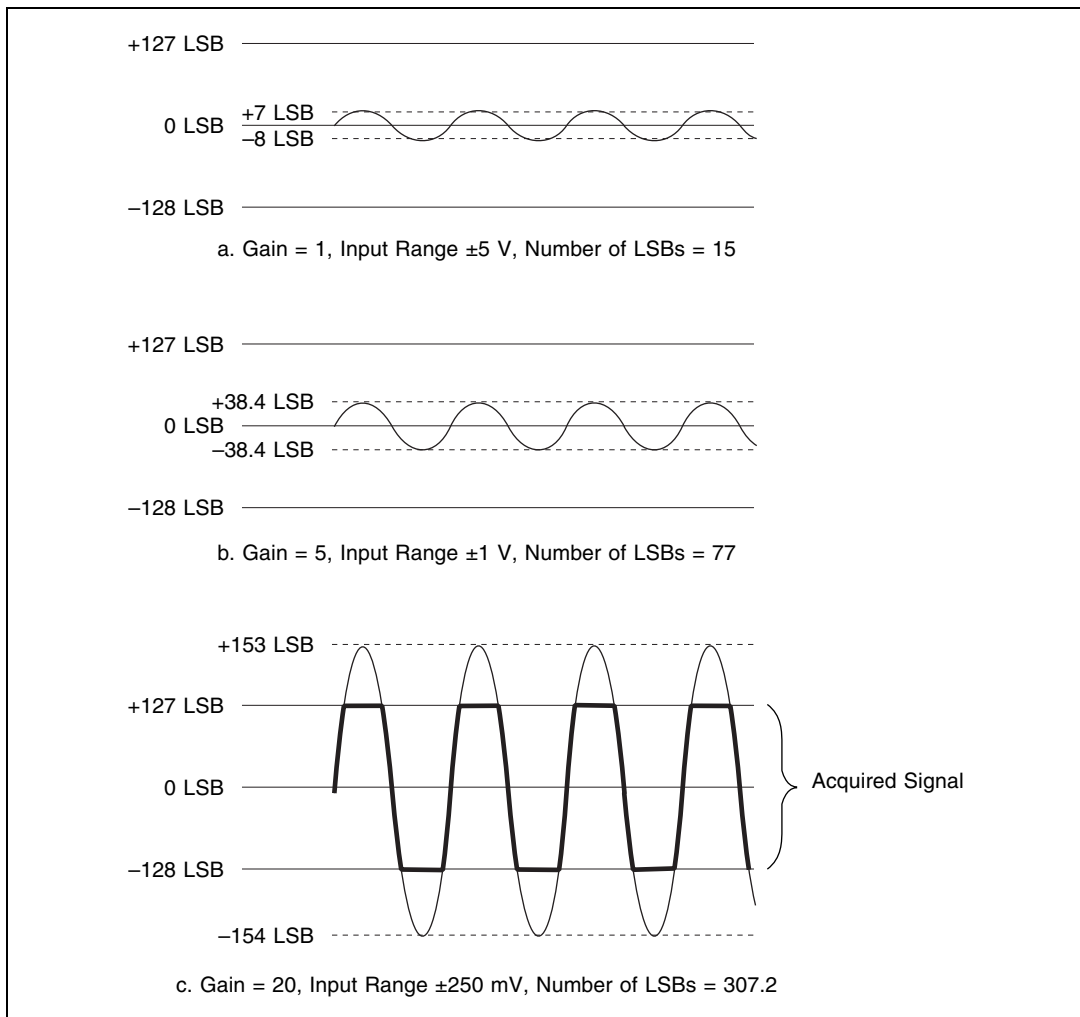

Figure 3-5. Dynamic Range of an 8-Bit ADC with Three Different Gain Settings
- **Peak-to-peak value**—This parameter, in units of volts, reflects the maximum change in signal voltage. If V is the signal voltage at any given time, then $V_{\text{pk-to-pk}} = V_{\text{max}} - V_{\text{min}}$. The peak-to-peak value affects the vertical sensitivity or gain of the input amplifier. If you do not know the peak-to-peak value, start with the smallest gain (maximum input range) and increase it until the waveform is digitized using the maximum dynamic range without clipping the signal. Refer to Appendix A, Specifications, for the maximum input voltage for your NI 5102. Figure 3-5 shows that a gain of 5 is the best setting to digitize a 300 mV, 1 MHz sine wave without clipping the signal.